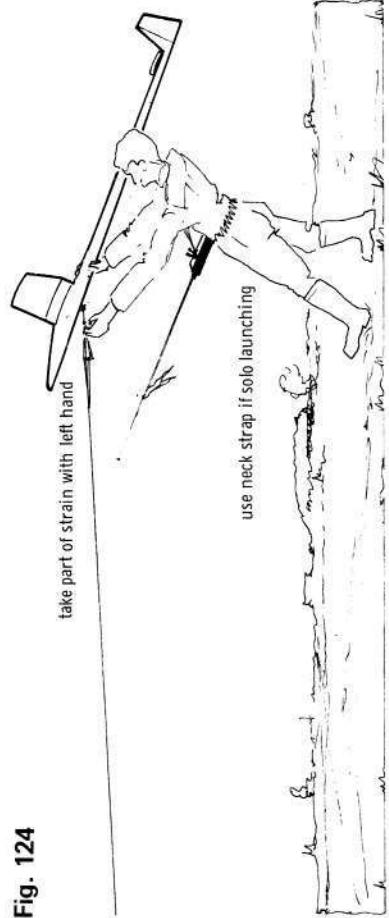

Fig. 124
**Launch techniques.** The basic operation has already been explained. It must be borne in mind that the whole object is to attain the maximum possible height before the model releases itself, or you release it. After the launch (*i.e.*, after the model leaves the launcher's hand), the angle of climb will control the rate of return of the bungee. This angle should not, of course, be excessive. As a rough guide, from the launch position, you should just be able to see the top surfaces of the wing. But only just. See Fig. 124.